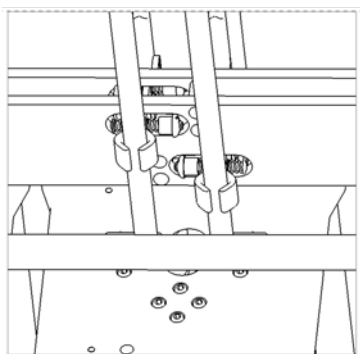
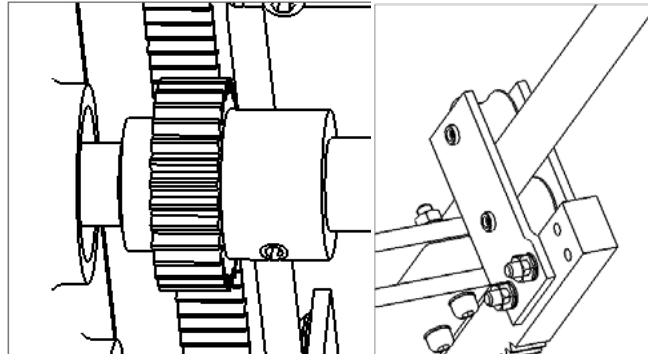

Fig 8.1 Moving and stationary contacts of tap selector
Fig 8.2 Transmission gear
8.2.3 Lubricate all movable parts, including moving and stationary contacts of tap selector as in fig 8.1; transmission gear in fig 8.2; cam of diverter switch in fig 8.3; turning arm of diverter switch in fig 8.4; mechanical contacts of diverter switch in fig 8.5.